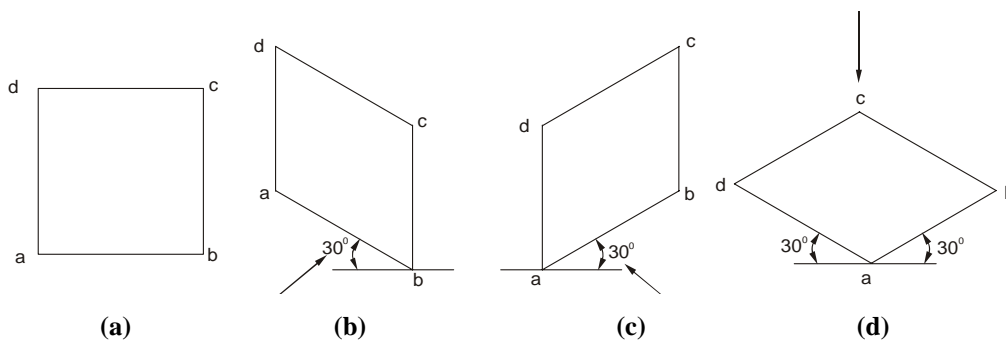

Figure 5.5
Draw the square as shown in Figure 5.5(a).
The square can be projected isometrically in three different ways, as shown in Figure 5.5.
$bcda$ is the isometric drawing of the square $abcd$ and it gives a feeling as if we are viewing perpendicular to the line ba and from the left to the right side as shown in Figure 5.5(b).
Another way in which the square could be projected is given in Figure 5.5(c). The procedure is exactly similar, but the 30° angle is to be drawn on the right hand side. This gives a feeling as if we are looking the square in a direction perpendicular to the side ab and from the right to the left.
- Figure 5.5(d) represents the isometric drawing of the square when the square is considered horizontal.